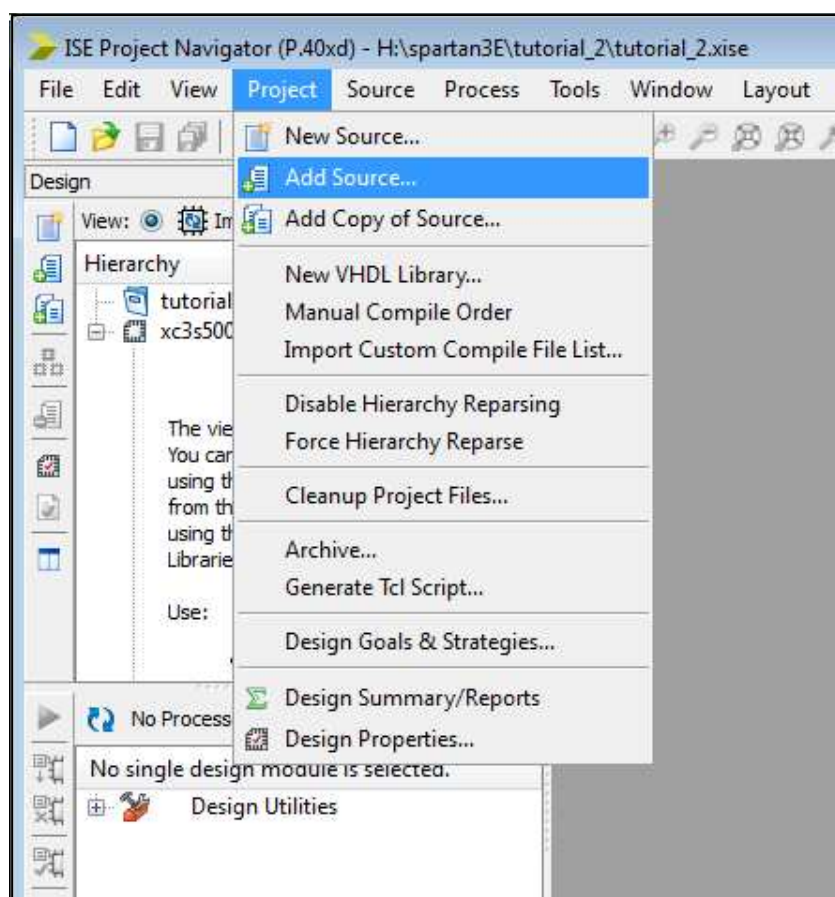

Figure 5.5: Adding a source file to the project.
1. Select **Project→Add Source** as shown in Figure 5.5. A window will appear allowing you to choose one or more files.